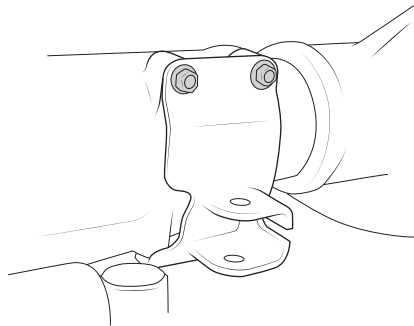

Figure 15
- a. Remove the two upper bolts from the steering dampener bracket at the axle (fig. 15).